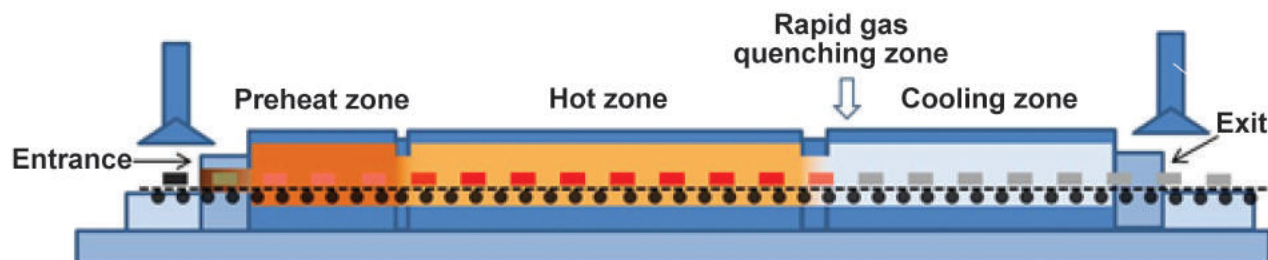

Fig. 1 — Typical design of a continuous sintering furnace.
Common powder metallurgy (PM) techniques involve compacting a blend of metal powder with lubricant and graphite (for ferrous parts) into a green part in a press, and sintering the part in a batch or continuous furnace. Continuous mesh-belt furnaces are widely used for mass production of PM parts^[1]. They typically have at least three zones—a preheating (or de-lubrication) zone, a hot (or sintering) zone, and a cooling zone. In addition, some continuous sintering furnaces have a specially designed rapid-cooling zone between the hot and cooling zones for sinter hardening steel parts. Figure 1 shows a typical continuous sintering furnace design.